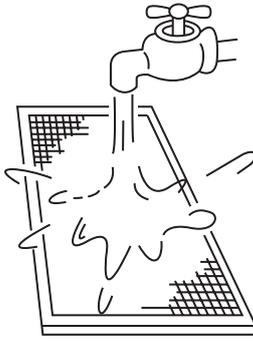

fig.9-4
- The air-in side should face down when using water. (See *fig.9-4*)**Caution : Do not dry out the air filter under direct sunshine or with fire.**